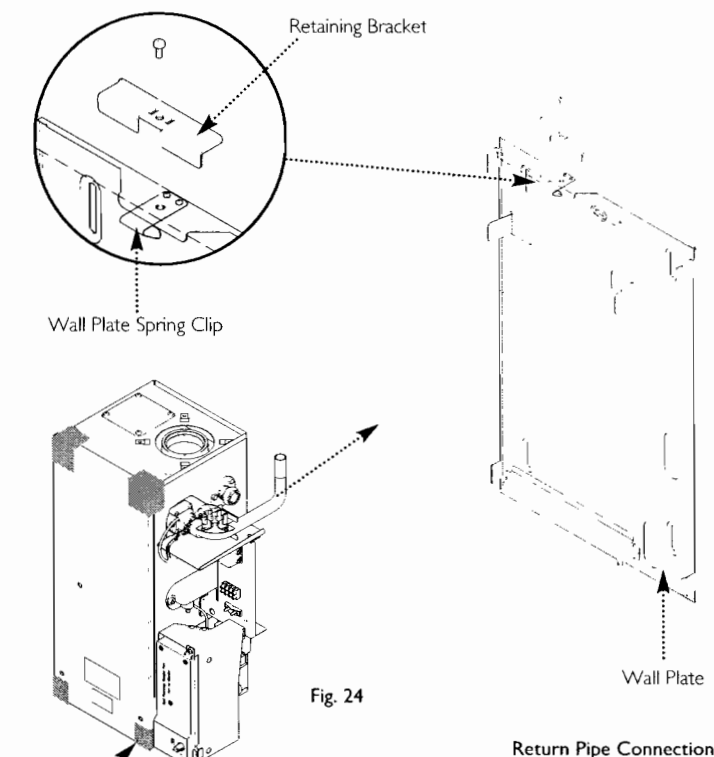

Fig. 24
### 8.3 Fitting The Boiler (Fig. 24)
2. Offer up the boiler to the wall plate using the lifting points shown in Fig. 24 and locate the rear bottom edge onto the self locating support at the base of the wall plate. (See **Safe Manual Handling** page 5.)
**NOTE:** When installing in a Loft/Small Compartment, access for lifting the boiler from the front can be gained for two people using the lifting points. (Fig. 24).